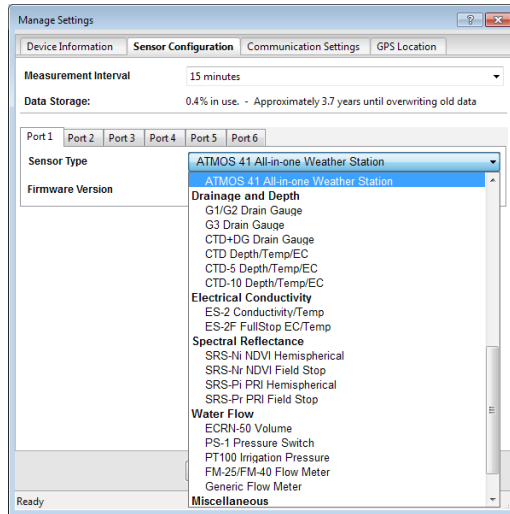

**Figure 4 Sensor Configuration tab**
7. Navigate to the Sensor Configuration tab (Figure 4).